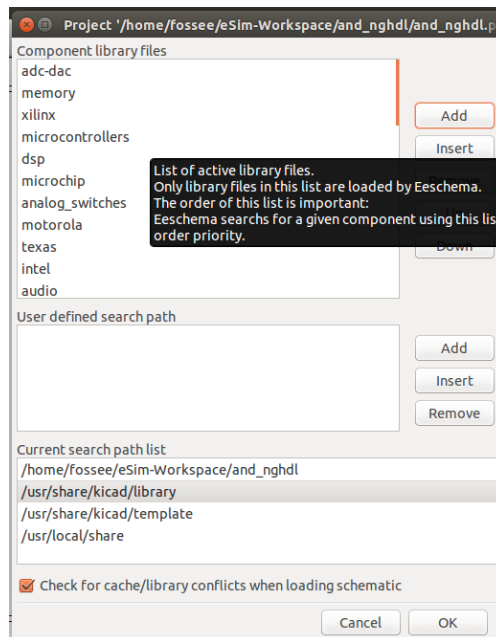
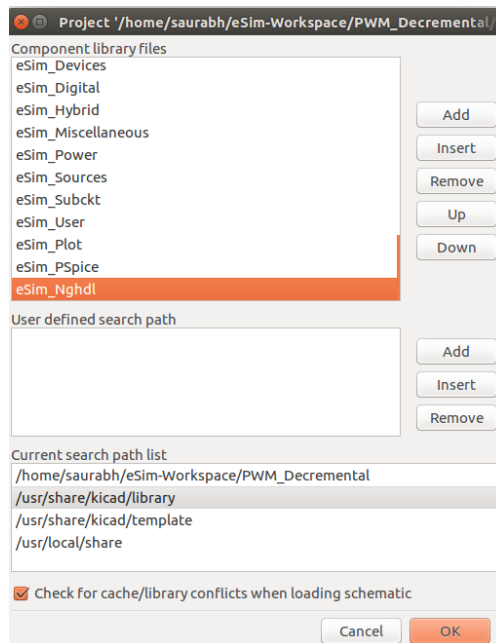

Figure 9.6: Adding the digital model library in KiCad
Figure 9.7: Selection of library
2. After successful upload of the model using the VHDL code, you can create the schematic of your design by clicking on **Open Schematic** button on the left pane of the eSim window. Then go to **Preferences** option on top of the schematic editor window and click on **Component Libraries** to add the library `eSim_Nghdl.lib` in KiCad. Following window will appear as shown in Fig. 9.6, where you will have to
click on *Add* button and select the eSim_Nghdl library. Refer Fig. 9.6 and Fig. 9.7.